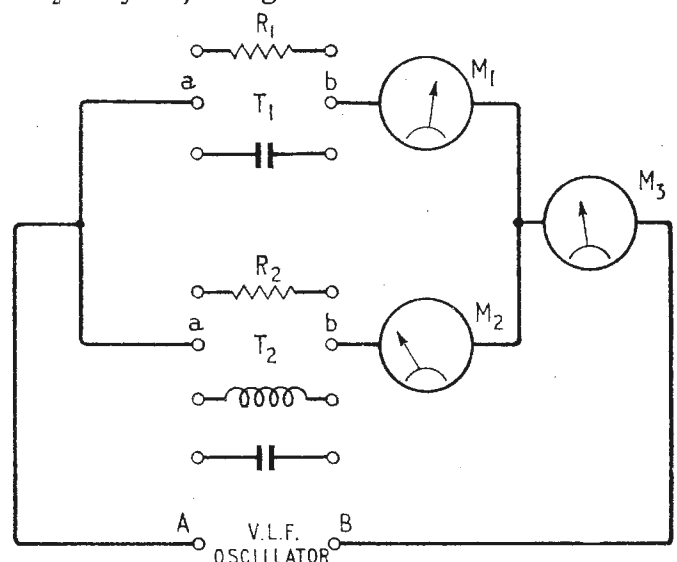

Fig. 1. Three centre-zero meters arranged to demonstrate a.c. phase relationships.
1. The demonstration begins with resistors R_1 and R_2 connected to terminals T_1 and T_2 respectively, as in Fig. 1. The centre-zero meters, M_1 , M_2 and M_3 , require 25 μA to give full scale deflection on either side. Suitable values for R_1 and R_2 are in the range 100k Ω to 200k Ω . Students see that the pointers on M_1 and M_2 swing in step with one another; when one pointer reaches its maximum deflection to the right, so does the other. The pointer on M_3 is also in step, and its peak swing is equal to the sum of the peak swings on M_1 and M_2 . It is helpful at this stage to remind students of the necessity for a suitable convention; we could agree, for instance that the current in each branch is to be considered positive when flowing from A to B; the meters are connected according to a consistent pattern, so that when current is flowing from A to B the pointer is deflected to the right.
▲ Fig. 1. Circuit diagram of noise generator and indicator.